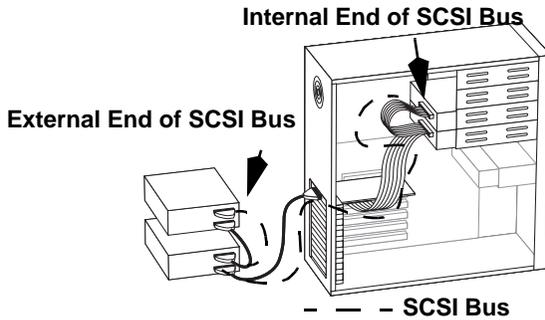

Figure 2-6. SCSI Bus Ends
- Both internal and external devices can be attached to the same FlashPoint adapter. The last device at each end of the SCSI bus (one internal end and one external end) must be terminated. (See Figure 2-6.)